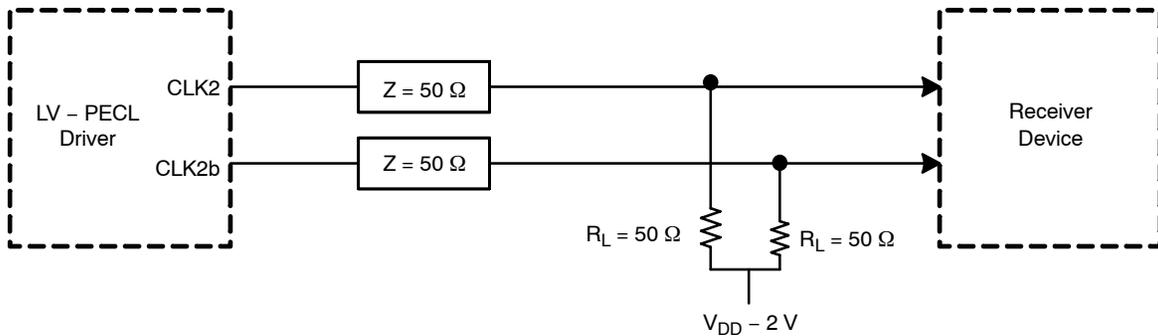

Figure 2. Typical Termination for Output Driver for Device Evaluation
- Measurement taken with outputs terminated with 50 ohms to $V_{DD} - 2\text{ V}$. See Figure 2.
5. Measurement taken with outputs terminated with 50 ohms to $V_{DD} - 2\text{ V}$. See Figure 2.